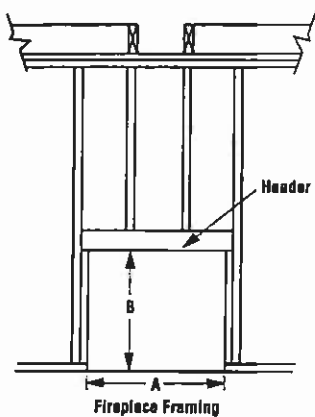

Figure 4
Step 1. Frame appliance enclosure as illustrated in *Figures 4 through 7 on page 5.*